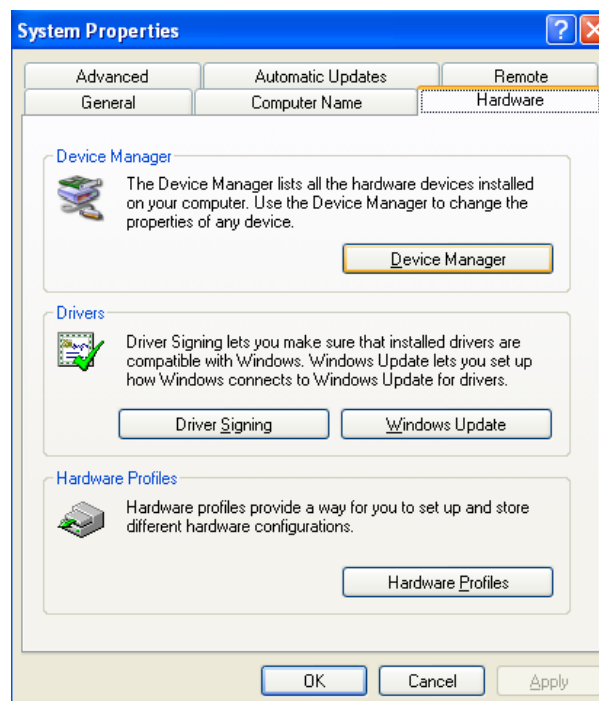

Figure 2
(2). Choose "Hardware" , click "Device Manager" left key of mouse, as shown in figure 2.